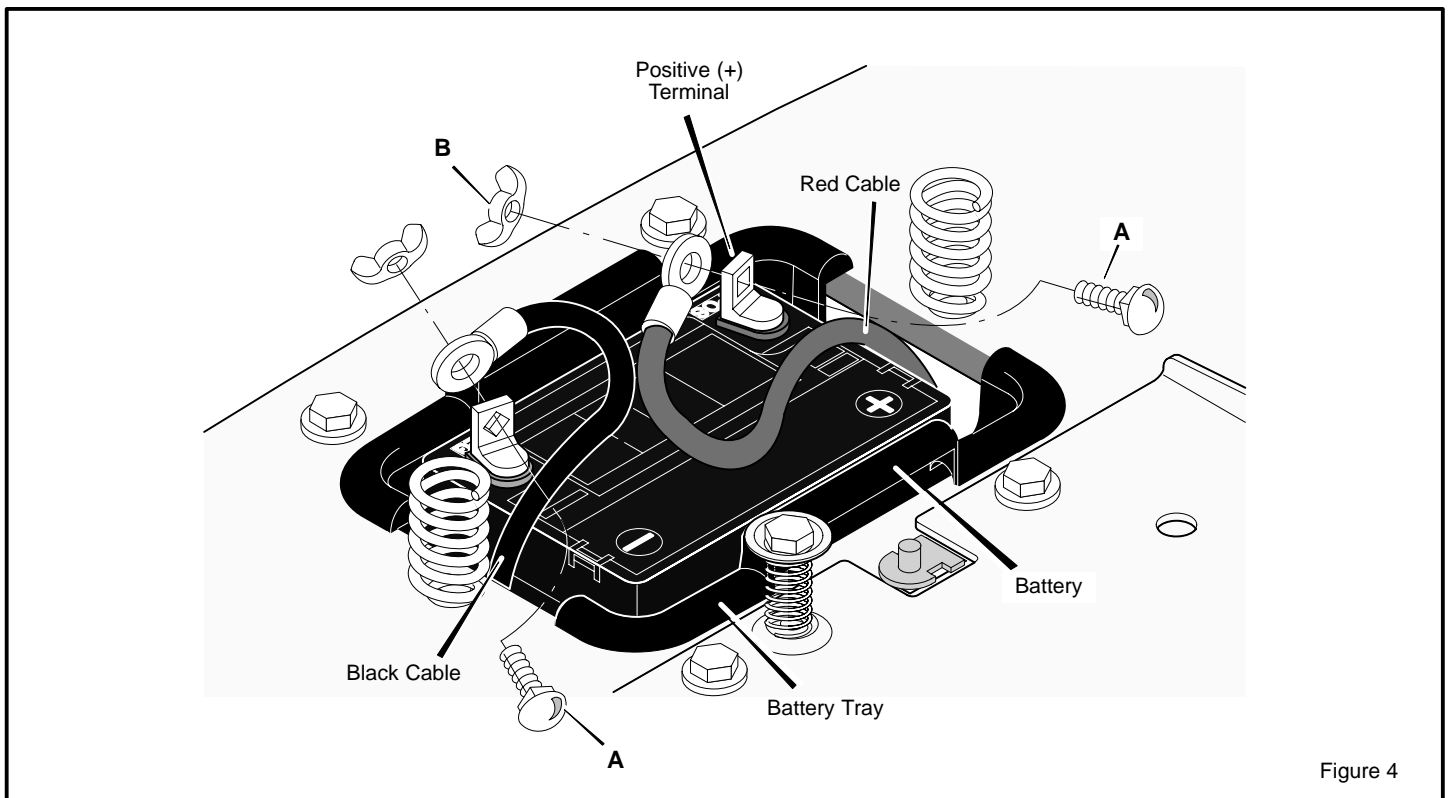

Figure 4
1. Check the top of the battery for the location of the **battery date** (Figure 4).
2. Fasten the **red cable** to the **positive (+)** terminal with the fasteners as shown (Figure 4).